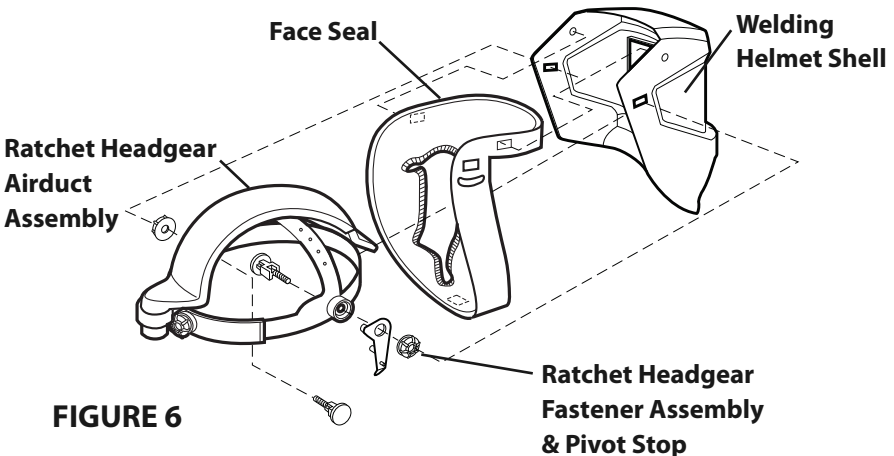

FIGURE 6
5. Line up the air duct headgear with the square cut out in the face seal with the inside of the helmet, while you screw the parts back in place. (See Figure 6).
6. Install the face seal by lining up the holes in the plastic portion of the face seal with the (3) three rivets installed in the helmet. One on each side of the helmet and one in the chin area. Line each hole and push the holes into the rivets.
7. Line up the air duct headgear with the square cut out in the face seal with the inside of the helmet, while you screw the parts back in place. (See Figure 6).